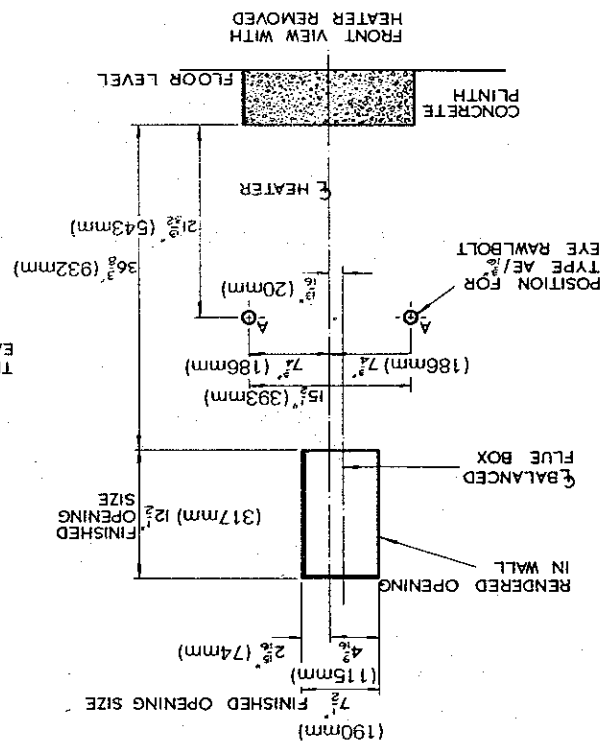

FIG 4
The positioning of the heater base duct or warm air plenum should be adjusted to give the required clearances from any combustible materials. In the case of a balanced flue or S. E. - Duct installation the base duct or warm air plenum should be positioned in the correct relative position to any pre-cut holes (SEE FIGS. 4, 5 & 6).
a) Prepare a finished opening in the wall to the dimensions and position shown in Figs. 4 & 5.